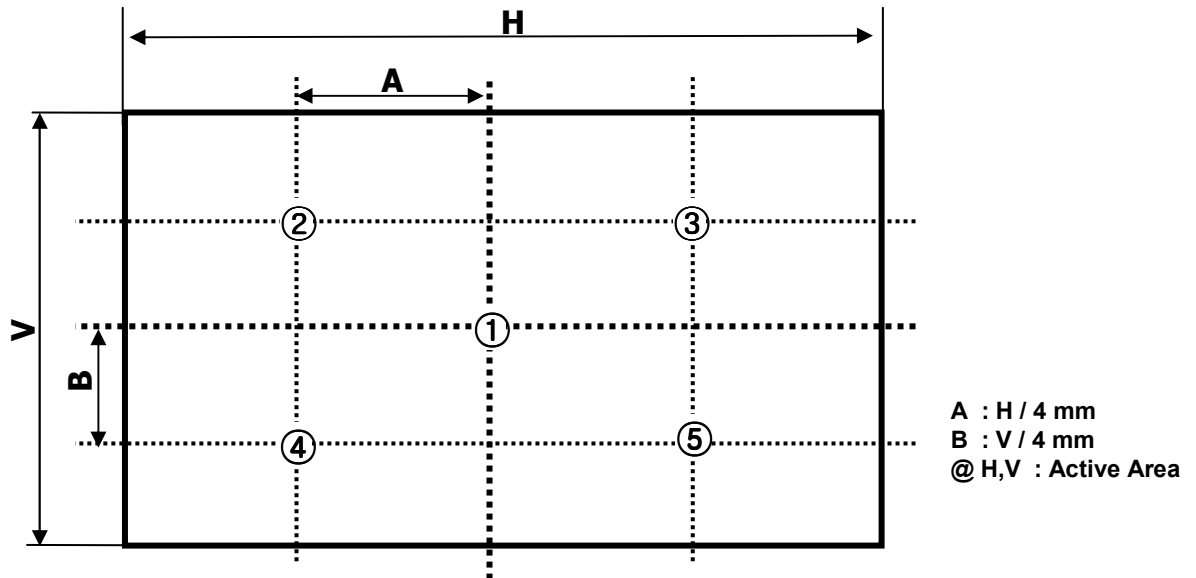

FIG.2 5 Points for Luminance Measure
2. Surface luminance are determined after the unit has been 'ON' and 1 Hour after lighting the backlight in a dark environment at $25 \pm 2^\circ\text{C}$. Surface luminance is the luminance value at center 1-point across the LCD surface 50cm from the surface with all pixels displaying white. For more information see the FIG. 2.
For more information, see the FIG. 2.